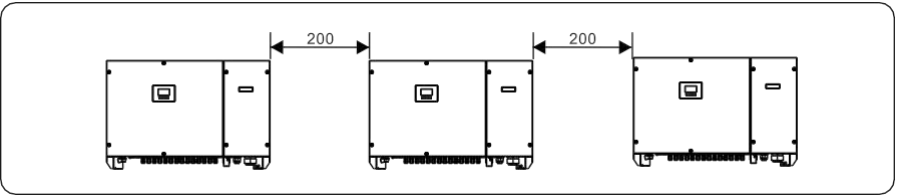
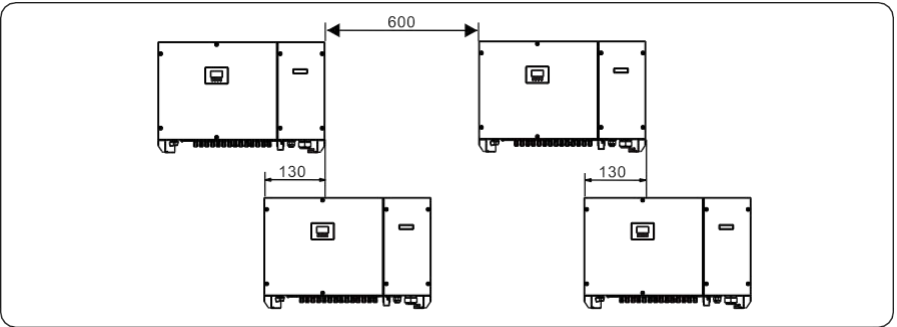

Figure 4.5 Installation along the same line (unit: mm)
Figure 4.6 Installation in stacked mode
- c. When installing multiple inverters, install them along the same line (as shown in Figure 4.5) if sufficient space is available, and install them in triangle mode or in stacked mode (as shown in Figure 4.6) if no sufficient space is available. The installation modes ensure sufficient space for installation and heat dissipation.